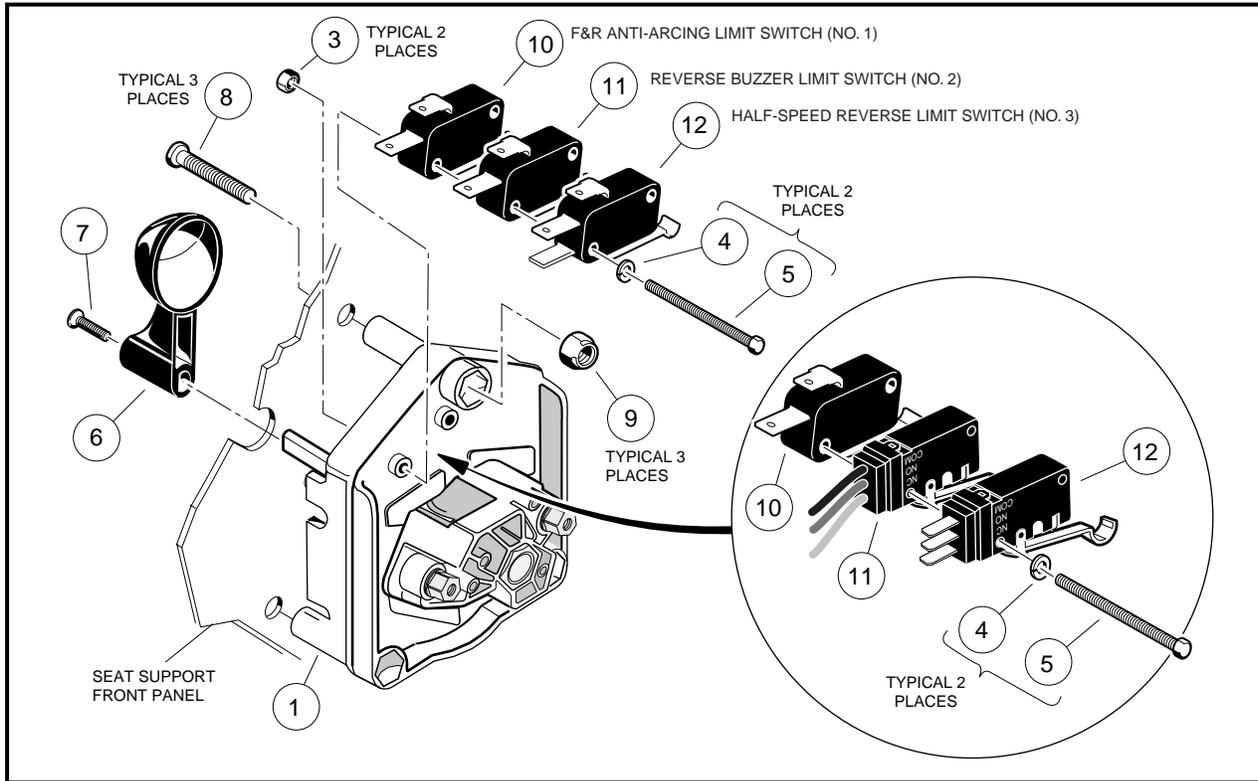

Figure 12-3 Forward/Reverse Switch
The F&R anti-arcing limit switch, reverse buzzer limit switch, and half-speed reverse limit switch are located on the F&R switch and are activated by a cam on the F&R switch rotor (**Figure 12-3, Page 12-5**).
1. Remove all three limit switches from F&R switch by removing two screws (5), lock washers (4) and nuts (3). Label each wire prior to disconnecting wire terminals from each switch (**Figure 12-3, Page 12-5**).
The half-speed resistor assembly is connected to the half-speed reverse limit switch on the Forward/Reverse switch (**Figure 12-3, Page 12-5**).
1. Disconnect the black and white wires on the No. 3 limit switch (**Figure 12-3, Page 12-5**).